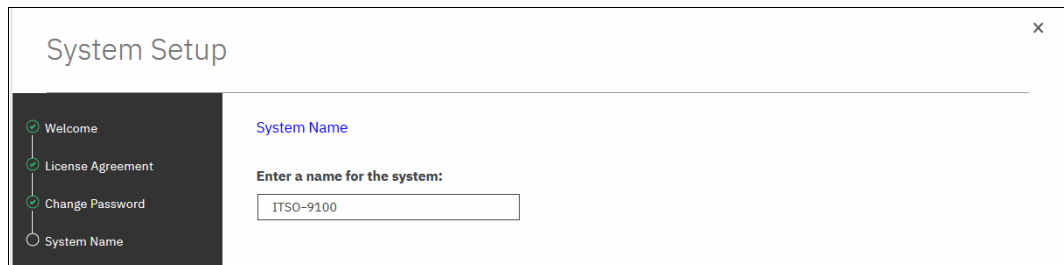

Figure 3-13 System Setup: Setting the system name
5. Enter the name that you want to give the new system, as shown on Figure 3-13. Click **Apply** and then **Next**.